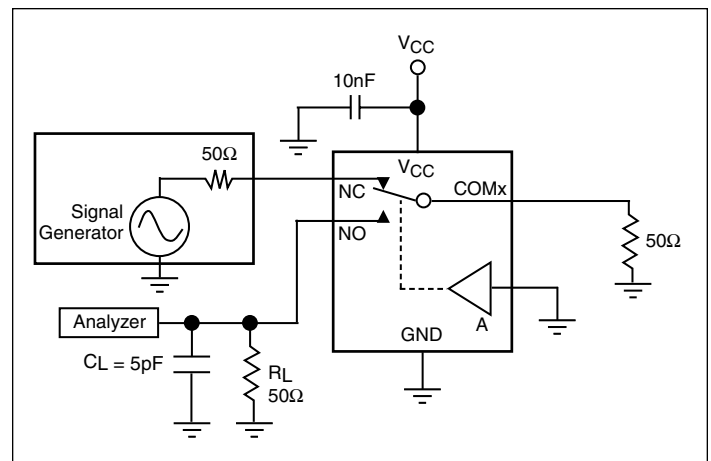

Figure 6. Crosstalk
- Between any two switches. See Figure 6.
5. Between any two switches. See Figure 6.